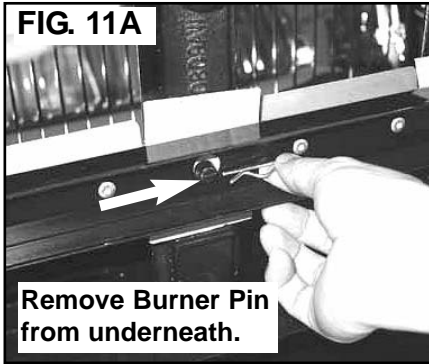

FIG. 11A
1. Remove the burner pin. (FIG. 11A)